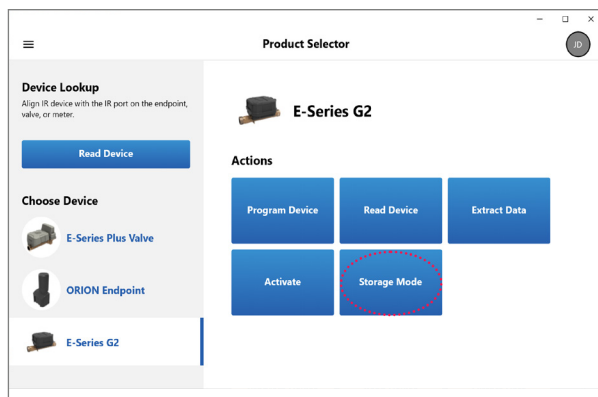

Figure 35: Select Storage Mode
2. Select the **Storage Mode** button (Figure 35) to place the meter into *Storage* mode.